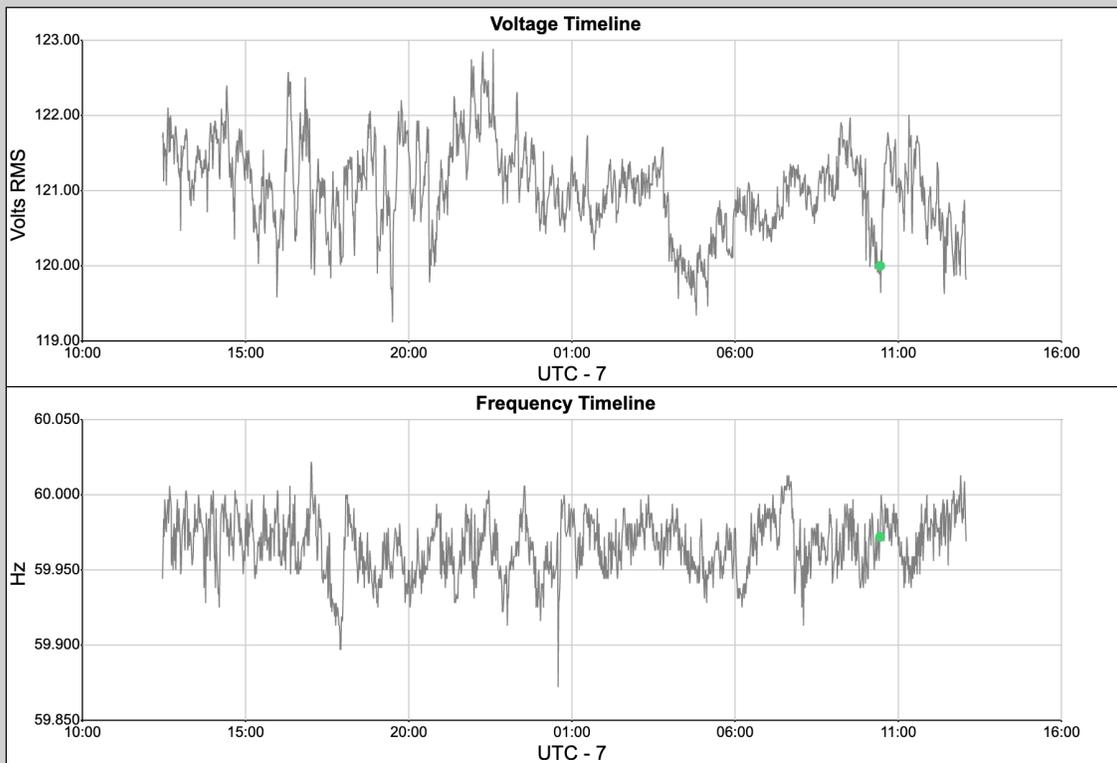

Figure 2: Web page
6. Use a web browser to open <http://PowerLineMonitor.local>. You should see a single page similar to Figure 2. The page contains a row of buttons; a table of events; and two graphs of either voltage and frequency over time, or details of one event.